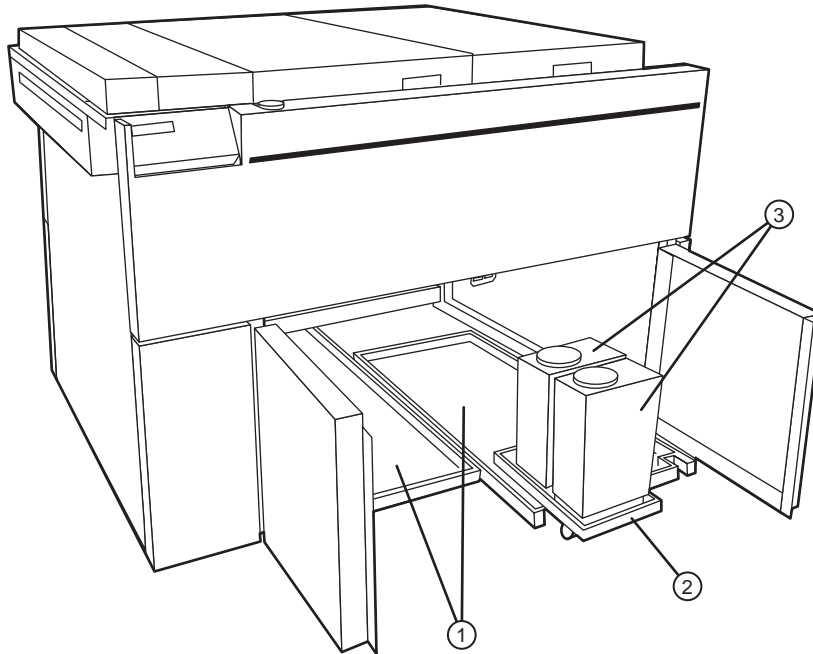

Figure 1-21 Placing the drip tray, chemistry trolley and fluid containers.
10. Place the drip tray, trolley and fluid containers under the OLP. Refer to Figure 1-21.